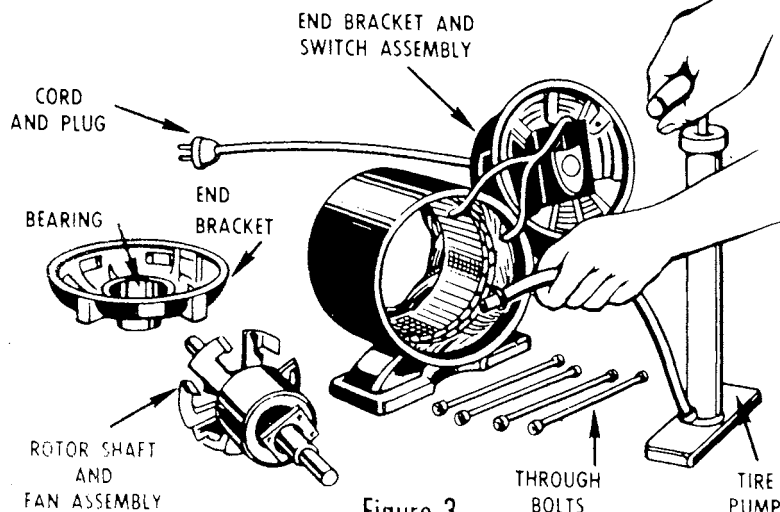

Figure 3
3. Take the motor apart (Figure 3) by removing the rotor, shaft, and fan assembly. Be careful not to break any connections or wires. Before loosening the end bells, mark the position of the bells on the motor frame.